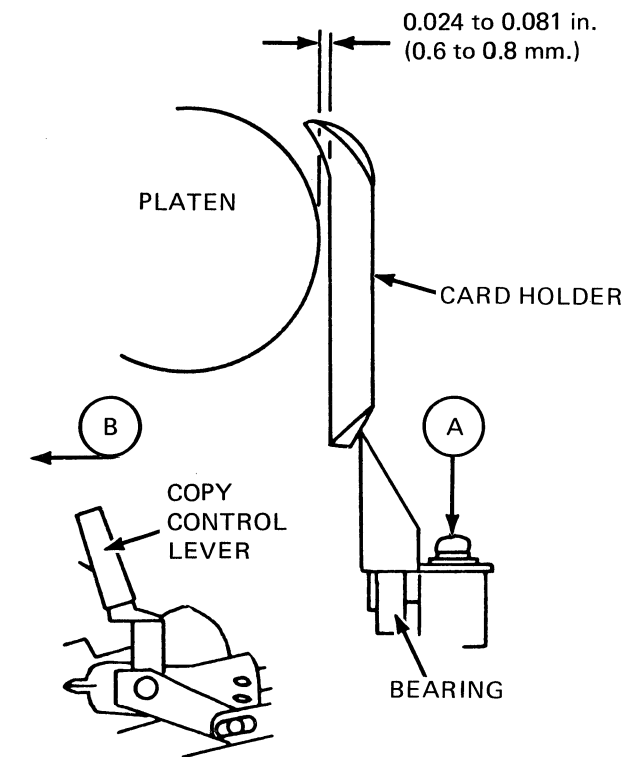

Figure 5-8 Card Holder Adjustment
- a. Push the copy control lever toward the rear of the printer (see Figure 5-8, arrow direction B).
- b. Loosen the screws (A) in Figure 5-8.
- d. Tighten the screws (A).